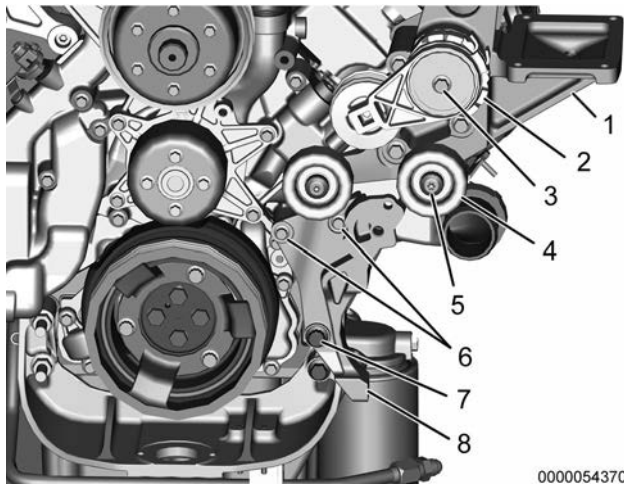

Figure 2. 3-Bolt Secondary A/C Compressor Support.
4. Flat idler pulley assembly (2)
6. M8 x 90 bolt (2)
9. Install new 3-bolt secondary A/C compressor support (Figure 2, Item 8).
10. Install M12 x 110 bolt (Figure 2, Item 7) and M8 x 90 bolts (Figure 2, Item 6) finger tight.
12. Tighten M8 x 90 bolts (2) to 31 N•m (23 lb-ft)